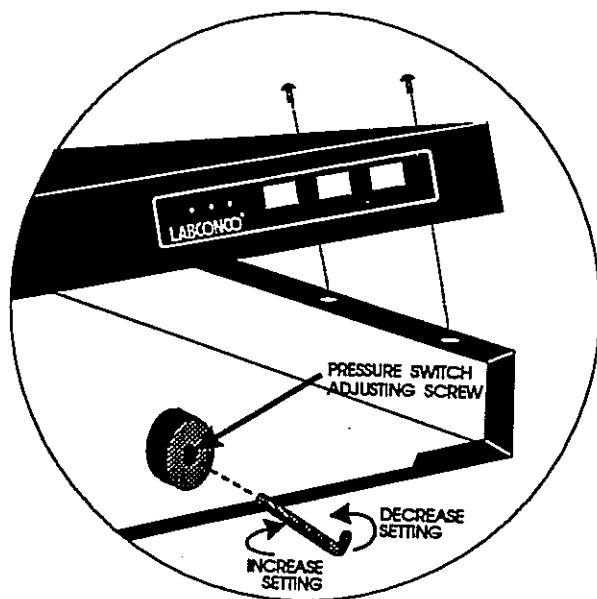

Figure 12
- (1) Turn the blower(s) on, and the blower speed control to the full speed setting.
- (2) Locate and remove the six Phillips head screws at the edge of the canopy as shown in Figure 12. Pull the canopy top out slightly then tilt it up.
- (3) If the 'NORMAL' light is on, insert the appropriate hex wrench, and turn the pressure switch adjustment screw **SLOWLY** counterclockwise until the 'SERVICE' light turns on. Go to step #4.
- (4) If the 'SERVICE' light is on, insert the appropriate hex wrench, and turn the pressure switch adjustment screw **SLOWLY** clockwise until the 'NORMAL' light turns on. Reattach the canopy top.
- (5) Turn the blower speed down, as required to establish the average velocity as described in the Speed Control Adjustment Section on page 20, or in the IES recommended practice IES-RP-CC-002-86. Replace the speed control cover plug when finished.